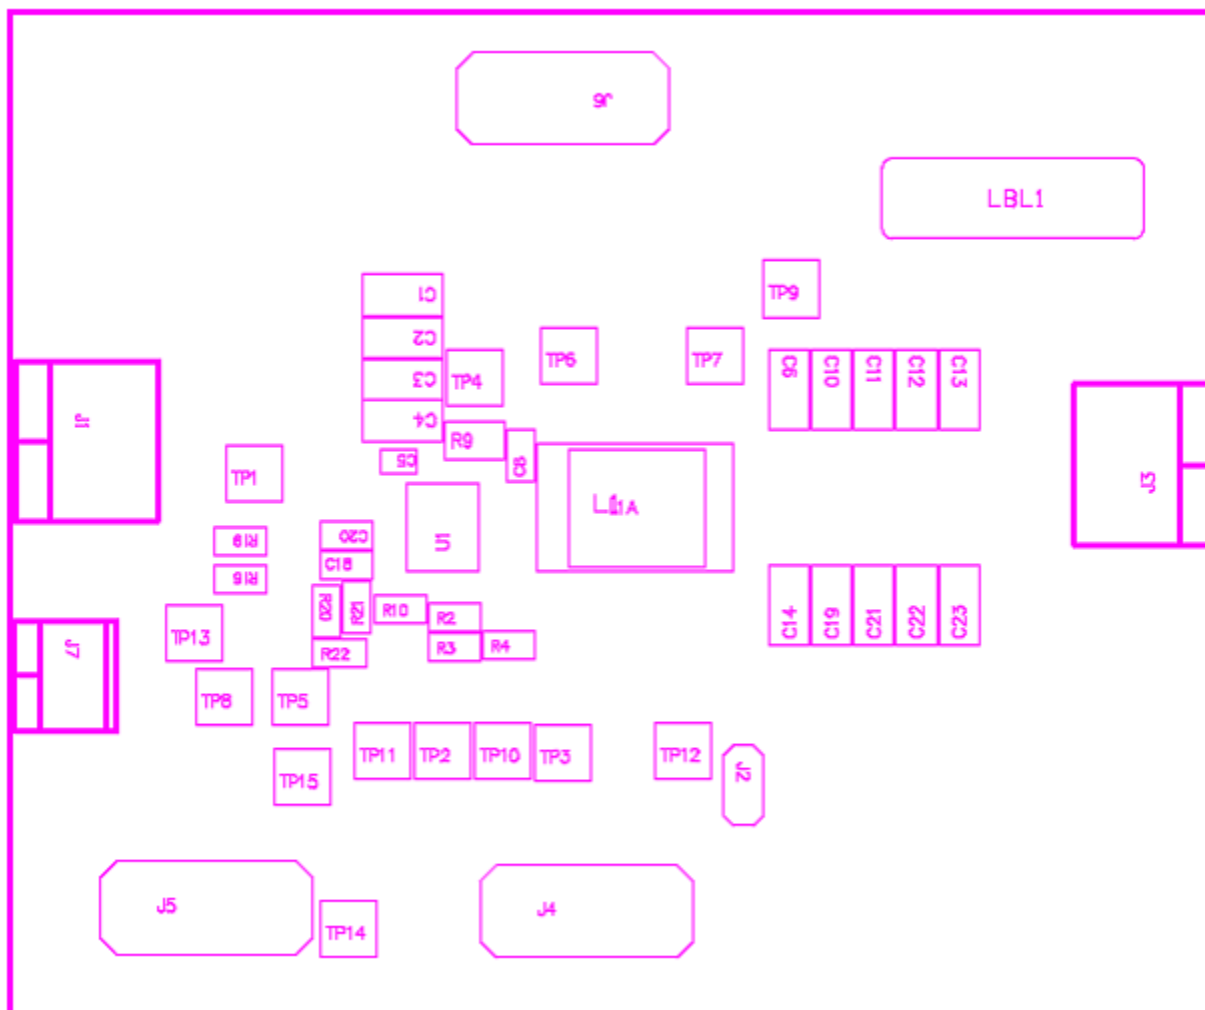

Figure 5-2. TPS53513EVM-587 Top Layer for Test Setup
Voltage Source: The input voltage source V_{IN} must be a 0-V to 14-V variable DC source capable of supplying 10 A_{DC}. Connect V_{IN} to J1 as shown in Figure 5-2.
1. Prior to connecting the DC input source (V_{IN}), it is advisable to limit the source current from V_{IN} to 10 A maximum. Make sure V_{IN} is initially set to 0 V and connected as shown in Figure 5-2.
1. Set up the EVM as described in Section 5 and Figure 5-2.